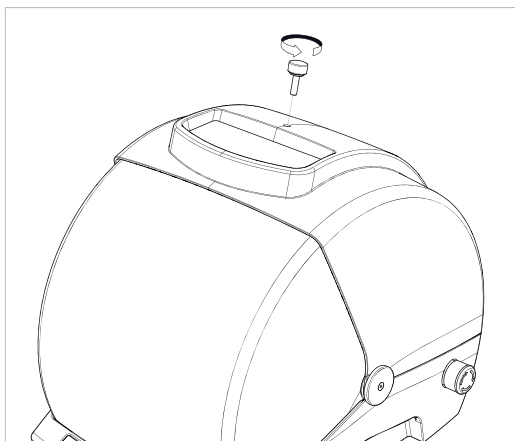

Fig. 12
- 2) Loosen the knob on top of the machine cover (Fig. 12).